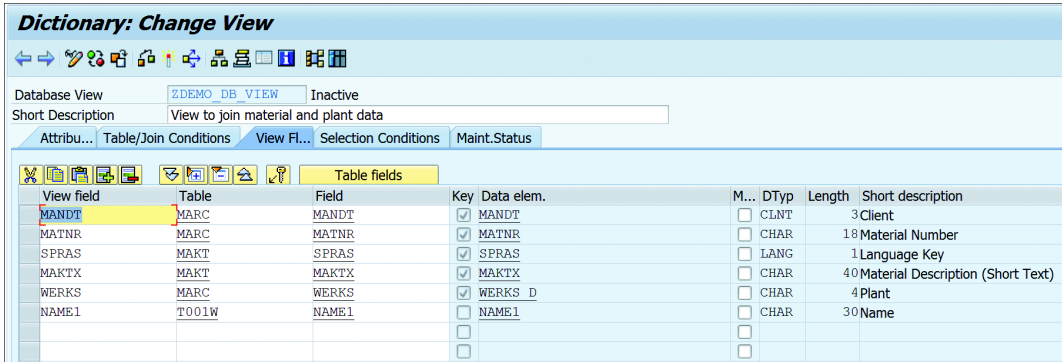

Figure 10.37 View Fields
- Click on the VIEW FIELDS tab. Use the TABLE FIELDS button to select the fields that you want to show in the view, as shown in Figure 10.37. You can select the fields from the basis tables that are listed in the TABLE/JOIN CONDITIONS tab.